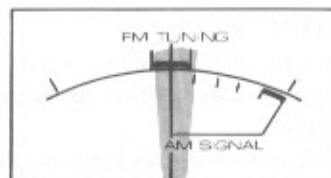

Fig. 9
3. Select the broadcasting station with the tuning knob. Adjust so that the tuning meter pointer is centered, as indicated in Fig. 9.